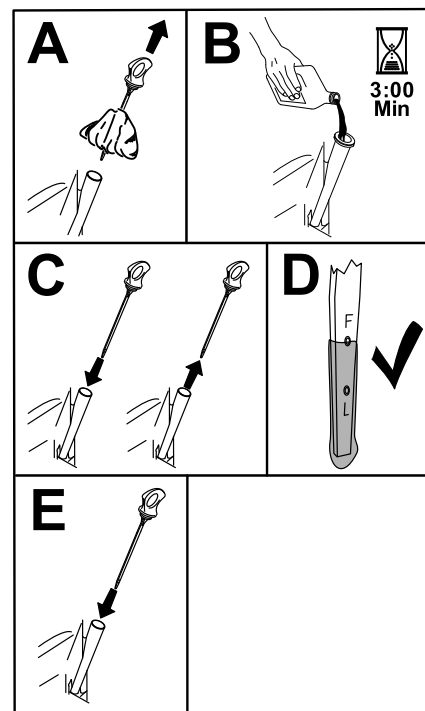

Figure 37
6. Slowly pour approximately 80% of the specified oil into the filler tube and slowly add the additional oil to bring it to the Full mark (Figure 37).